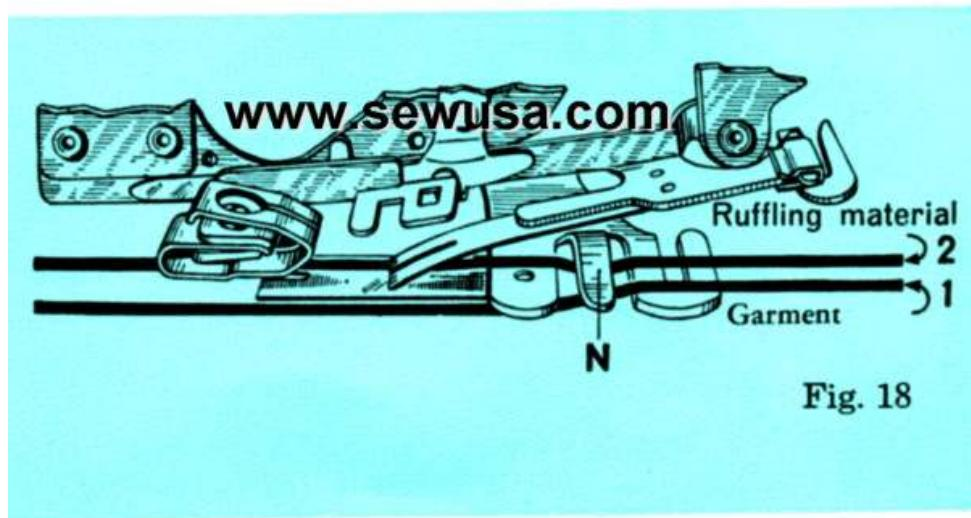

Fig. 18
- 1) Insert material to be ruffled between the two blue blades and under the separator guide « N » (Line 2, Fig. 18).
- 2) Place material (garment, etc.) to which ruffle is to be attached under separator blade « K » (Fig. 15) and under separator guide « N » (Line 1, Fig. 18).